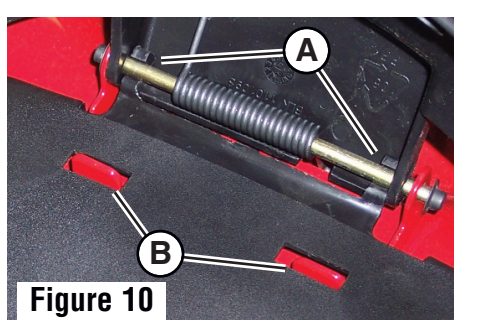

Figure 10
- Install the side discharge deflector (B) onto the mower deck. Make sure the upper tabs (A, Figure 10) of the deflector are hooked behind the mulching cover rod, and the deck tabs stick up through the locking slots (B).